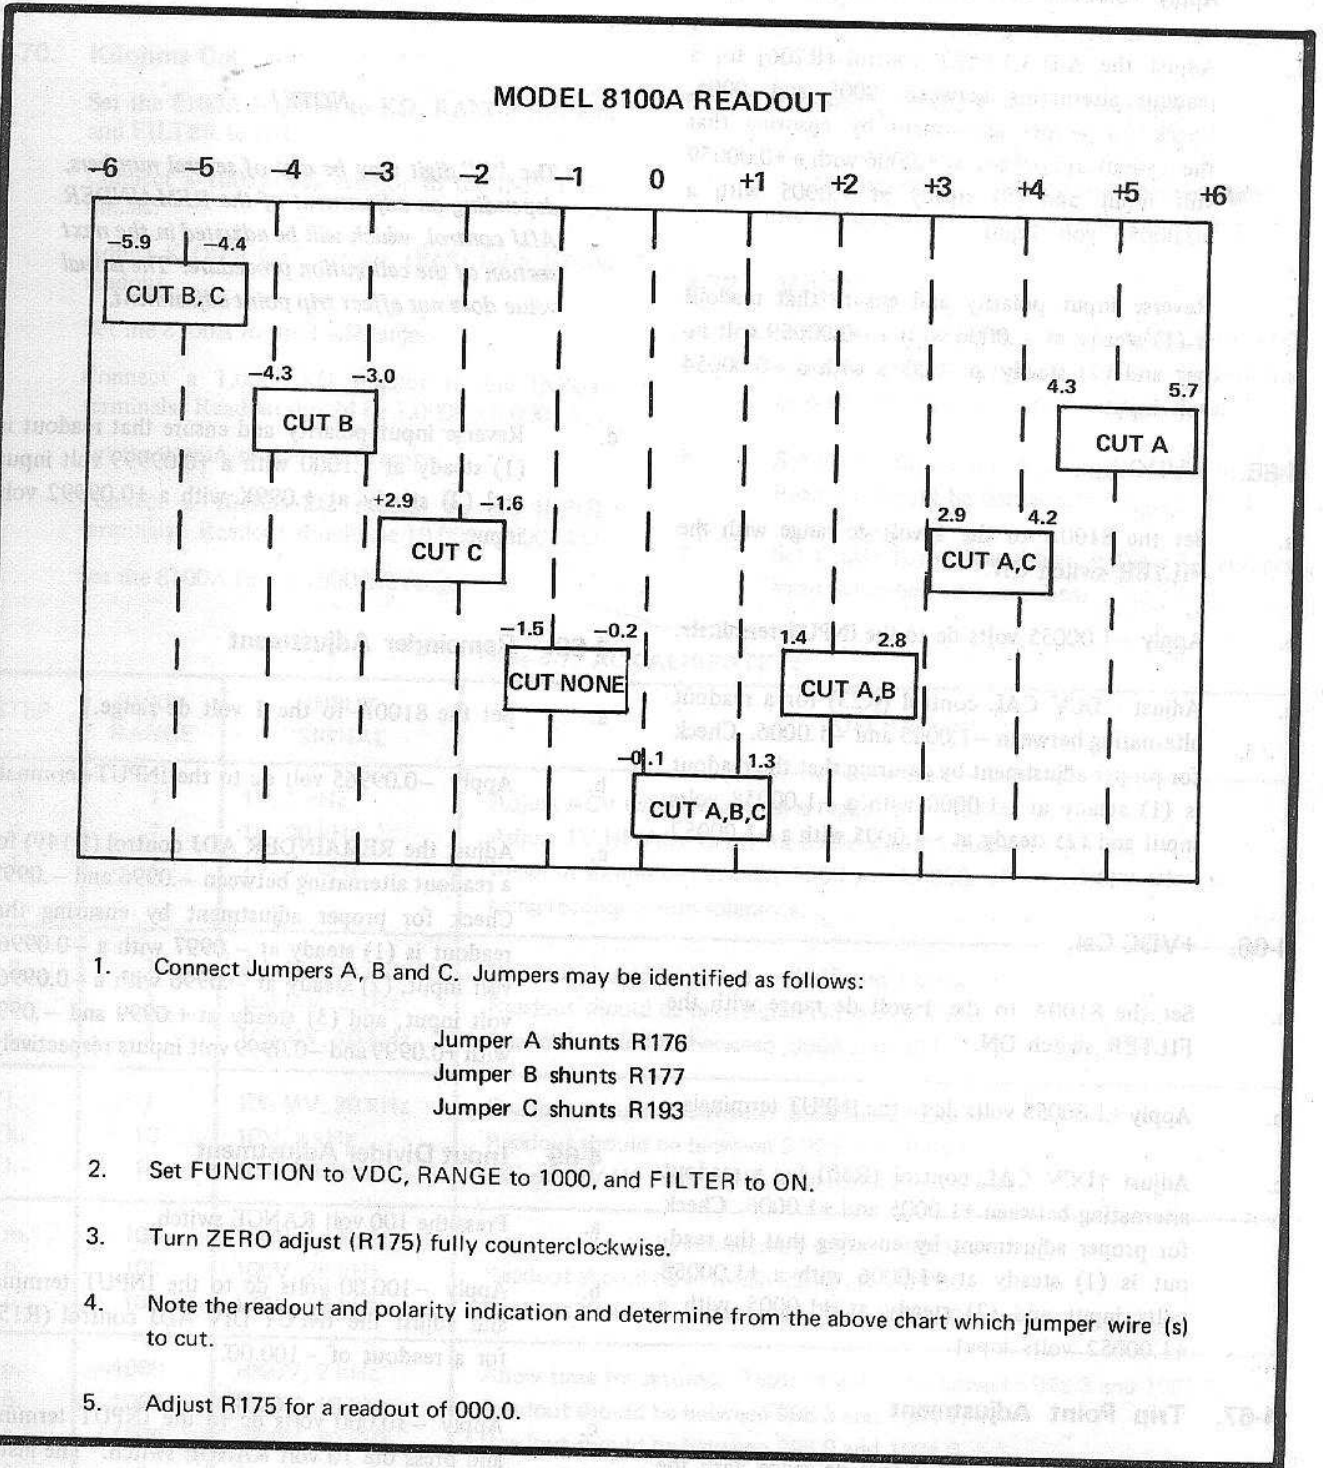

Figure 4-14. ZERO ADJUSTMENT PROCEDURE
d. Adjust the ZERO control (R175) for zero volt dc ( $\pm 10 \mu\text{V}$ ). If unable to obtain zero by adjusting R175, refer to the detailed procedure given in Figure 4-14.